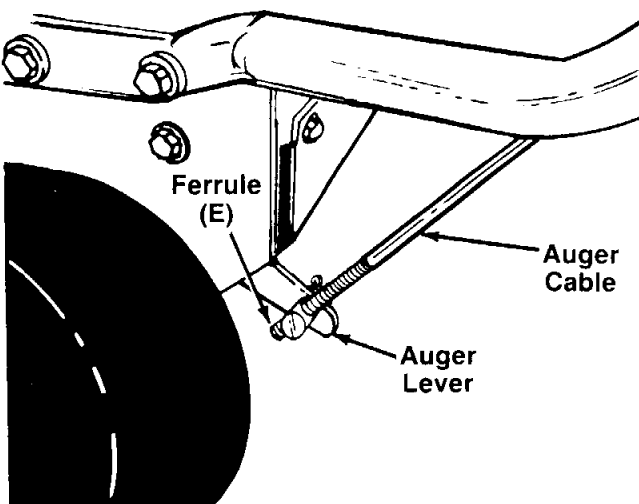

FIGURE 17.
23. Thread the ferrule (E) onto end of auger cable until it lines up with the hole in the auger lever (auger lever is in down position and auger clutch grip is released). Place the ferrule through the auger lever. See figure 17.
To adjust the auger clutch, disconnect the ferrule from the auger bracket as shown in figure 17. Refer to steps 22 and 23 under Assembly Instructions for proper adjustment.